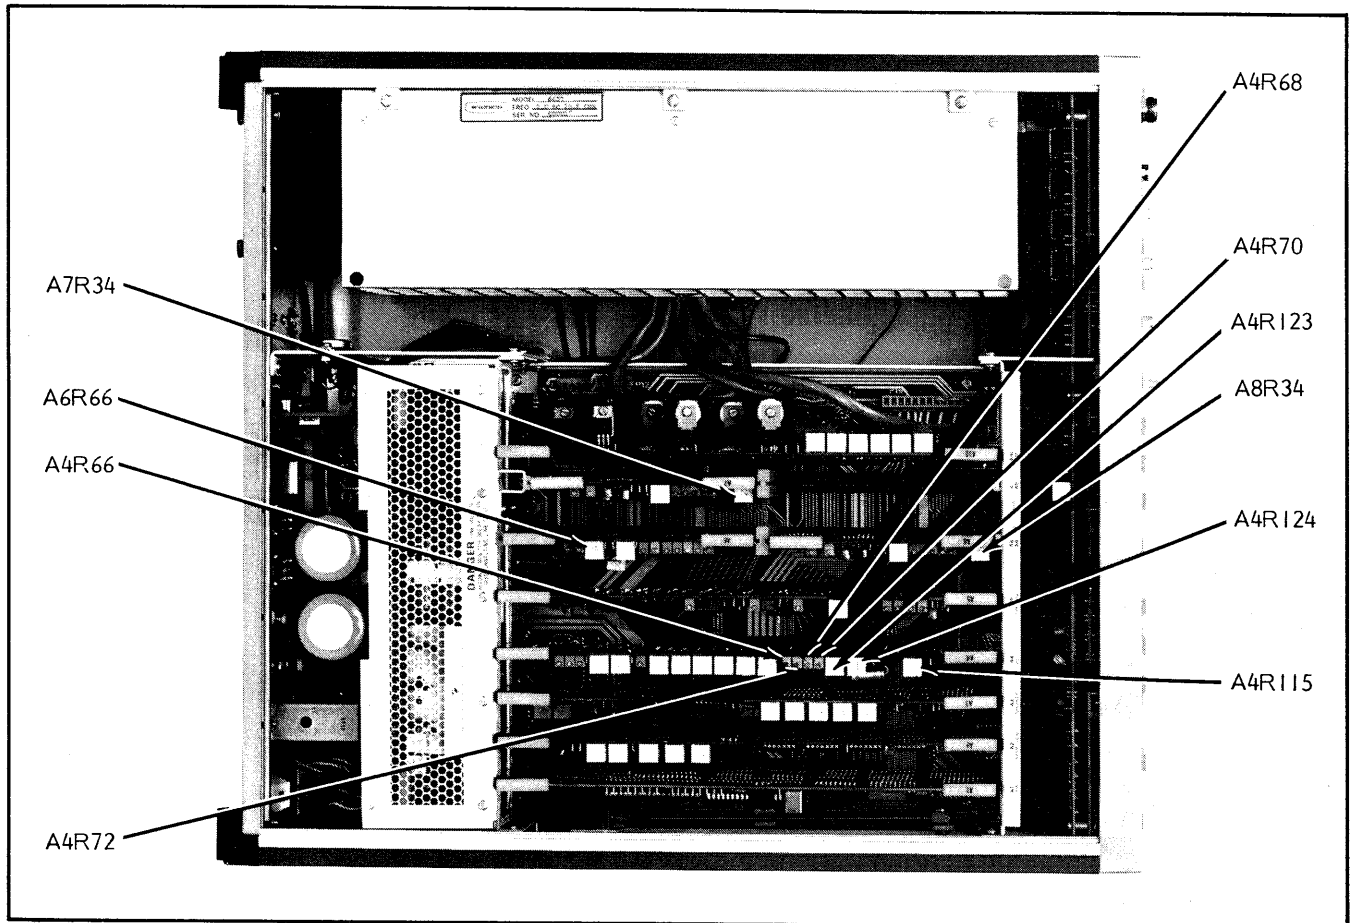
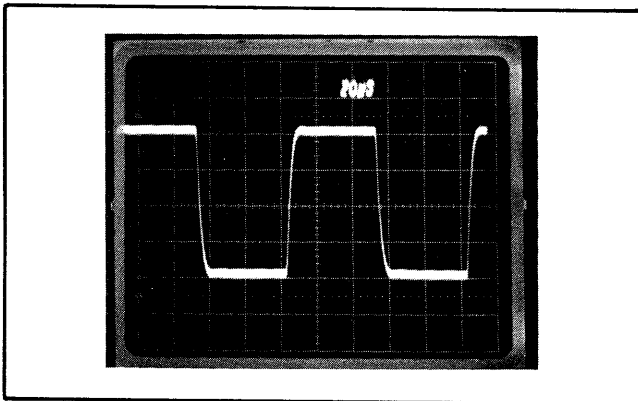

Figure 5-38. ALC Loop Adjustments
Figure 5-43. ALC Loop Square Wave
- (c) Adjust A4R124 and A6R66 (Figure 5-38) for a square wave with no overshoot and a rise time of less than 20 μ s.
- (c) Adjust A4R123 and A7R34 (Figure 5-38) for a square wave with no overshoot and a rise time of less than 20 μ s.
8. Alternately press CW F1 and CW F2, and adjust A4R115 (Figure 5-38) for equal power at each CW frequency.
3. As indicated on the power meter, adjust A4R66 (Figure 5-38) for the power level indicated on the LEVEL LED display.
8. Adjust the oscilloscope vertical and horizontal controls to display a square wave similar to that shown in Figure 5-43.
9. Alternately adjust A4R124 and A7R34 (Figure 5-38) for the best square-wave response. The square wave should resemble Figure 5-43.